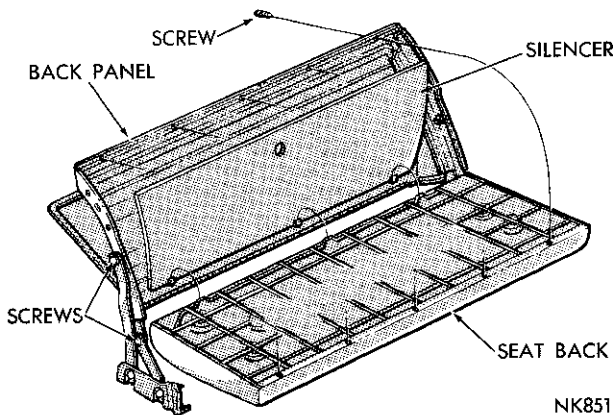

Fig. 35—Second Seat Back
- (1) Remove the screws attaching the second seat back to the hinge assemblies (Fig. 35).
- (2) Release the catches from the seat back and remove the seat back assembly.